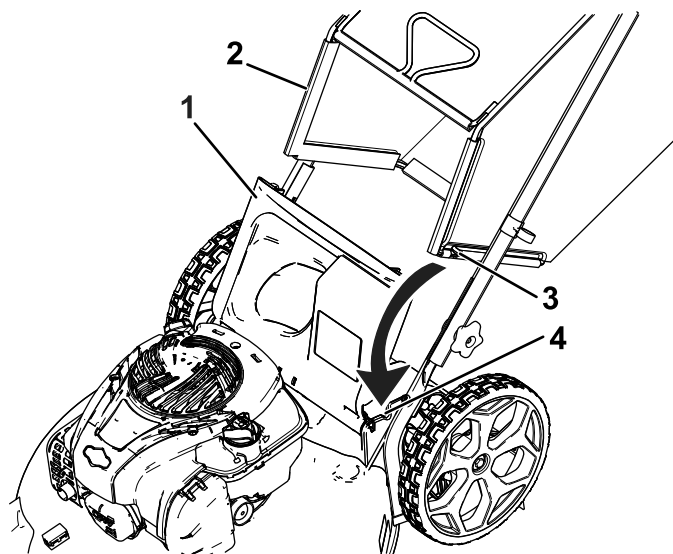

Figure 15
1. Lift up the rear deflector (Figure 15).
2. Insert the rod ends of the grass bag into the notches in the handle brackets (Figure 15).